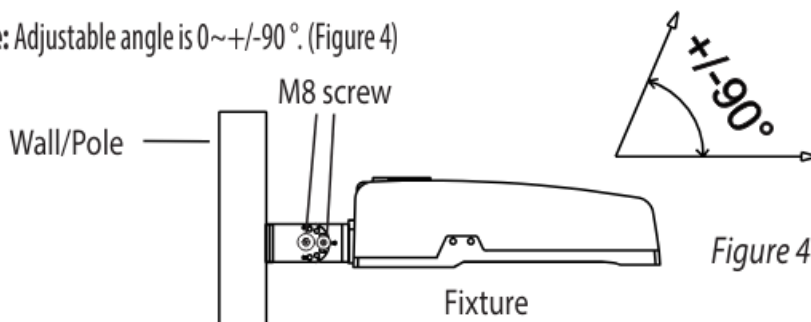

Figure 4
2. Align the fixture to the required angle. Tighten M8 screws after angle is confirmed. (Figure 4)
Note: Adjustable angle is 0~+/-90° (Figure 4)